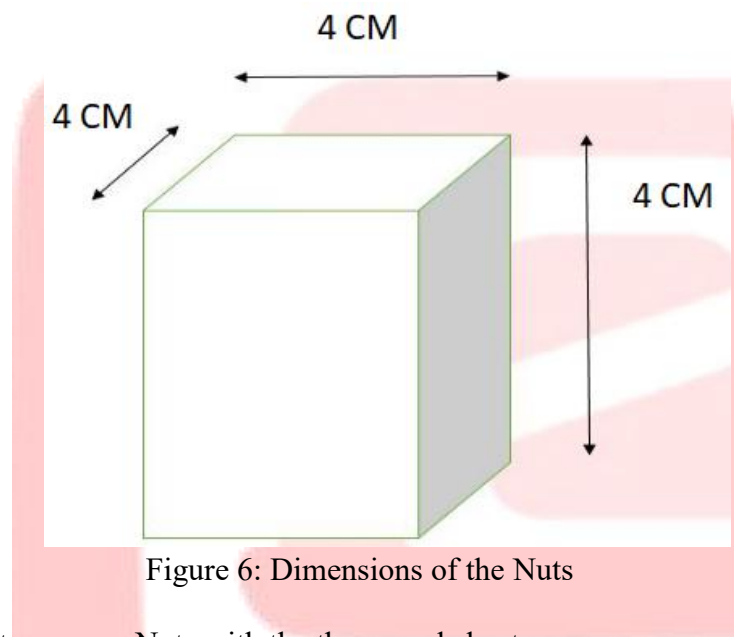

Figure 6: Dimensions of the Nuts
- ❖ Dimension of the Nuts are 4cm x 4cm x 4cm as shown in the Figure 6.
- ❖ Teams need to prepare Twelve(12) such Nuts from thermocol sheets of red, blue and green Four (4) in color each.